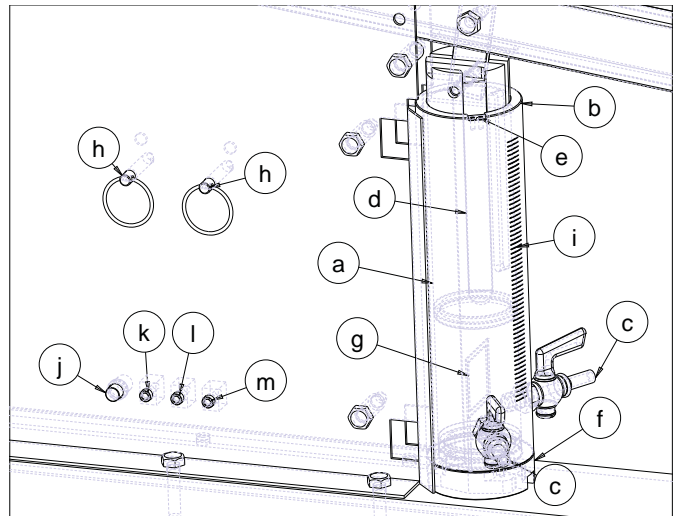

Fig 1: Apparatus details
A piston, Fig 1, item **a**, made of acetal plastic is manually driven down or up in an acrylic cylinder, Fig 1, item **b**, which is filled with any of several gases, including monatomic argon, diatomic air or nitrogen, triatomic carbon-dioxide, and other polyatomic gases, which are injected and exhausted through the two brass gas cocks, Fig 1, item **c**. Mounted on the side of the piston is a linear potential divider, Fig 1, item **d**, is used to monitor the position of the piston. The 5 volt source is applied across the potentiometer element. The voltage from the commutator brush, Fig 1, item **e**, is then used to indicate the position of the piston and thus the volume of the confined gas.
The acetal base, Fig 1, item **f**, which seals the bottom of the cylinder has two transducers mounted on it. Sealed against the lower surface of the base is a solid state pressure transducer. Mounted in the cylinder on the top of the base is the temperature sensor, Fig 1, item **g**. The active element is an extremely fine nickel wire which has a very high temperature coefficient of resistance as well as a high surface to mass ratio which allows its temperature to change rapidly as the gas compresses or expands.
A transparent millimeter scale, Fig 1, item **i**, on the front of the cylinder facilitates direct measurement of the initial and final piston position to use in the computations and to calibrate the volume data acquisition. Two removable pins, Fig 1, item **h**, are provided to vary the excursion of the piston by limiting the motion of the piston lever. Holes to store the pins when not used are provided directly above the central label. Fig 1, item **j**, **k**, **l**, and **m**, are the 9V power input and the temperature, volume, and pressure analog voltage outputs, respectively.
*The temperature sensor, Fig 1, item **g**, on the cylinder and the commutator brush, item **e**, associated with the volume transducer are extremely fragile. There should be no need to disassemble the cylinder. If it is ever necessary, remove the commutator brush, Fig 1, item **e**, at the top of the cylinder before removing the piston. Next remove the base, carefully avoiding any contact with the temperature sensor. Damage to the temperature sensor will necessitate returning the equipment to the manufacturer for repair and re-calibration.*